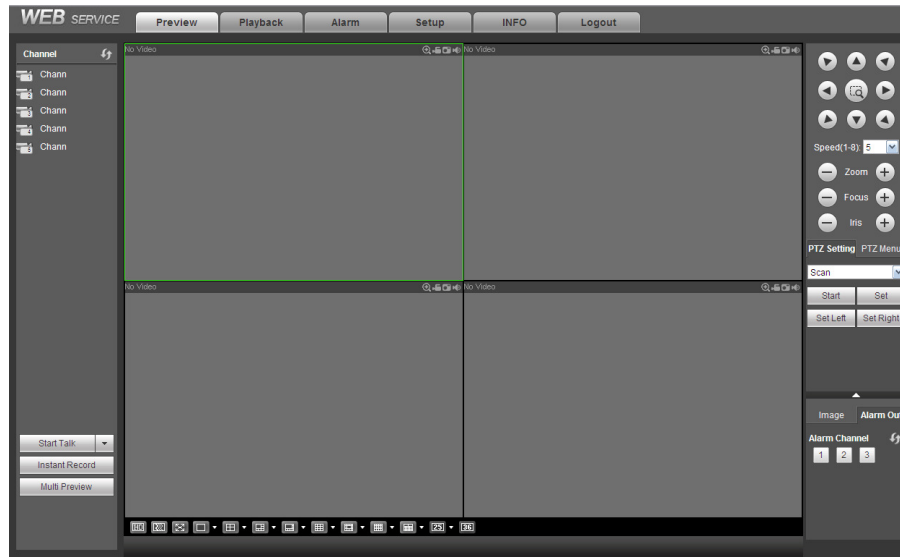

Figure 4-18
- 2) User may select different channels and different monitor modes at the bottom of the interface. See Figure 4-18.